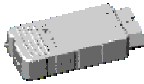

Fig. 3-4 Confirmation that the VAS5054A is ready
1. Open *Bluetooth Devices* in Control Panel. On the *Devices* tab, you can search for Bluetooth devices in range. Please note that the VAS 5054A has to be plugged into the vehicle's diagnostic connector for power supply. Click **Add....** A dialog box opens. Check the *My device is set up and ready to be found* box (see Fig. 3-4) and then click **Next>**.